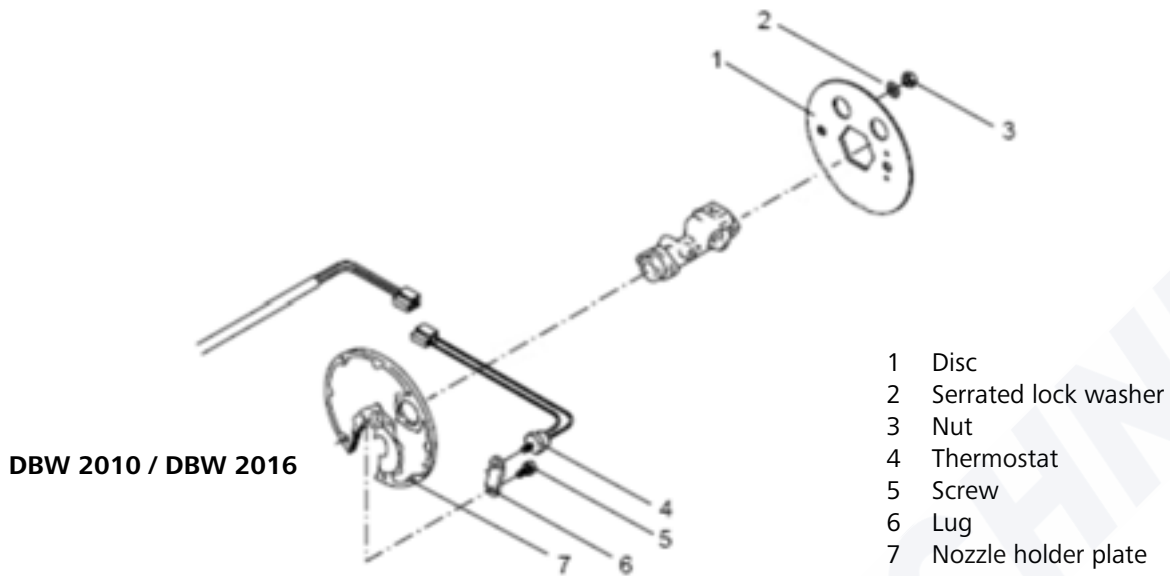

Fig. 913 Replacing thermostat of nozzle holder pre-heating unit
3. Screw thermostat (4, Fig. 913) off nozzle holder plate (7) or disc (1) and remove with screw (5), lug (6) or nut (3) and serrated lock washer (2).
1. Move thermostat (4, Fig. 913) into installation position and fasten with lug (6) and screw (5) on nozzle holder plate (7) or with nut (3) and serrated lock washer (2) on disc (1).